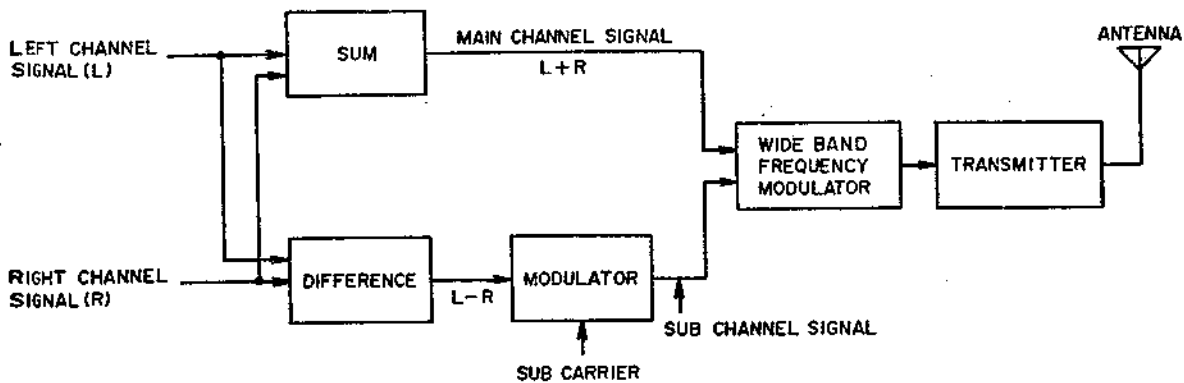

Fig. 14 FM Broadcasting System Diagram
As shown in Fig. 14 for FM broadcasts, the sum signal (L+R) consists of left signal (L) and right signal (R) and the audio frequency band of this signal in its original form is frequency modulated. On the other hand, the difference signal of both (L-R) is changed to high frequency through the use of the sub carrier, and is referred to as the sub channel signal. The carrier is further frequency modulated and sent to the FM stereo transmitter.